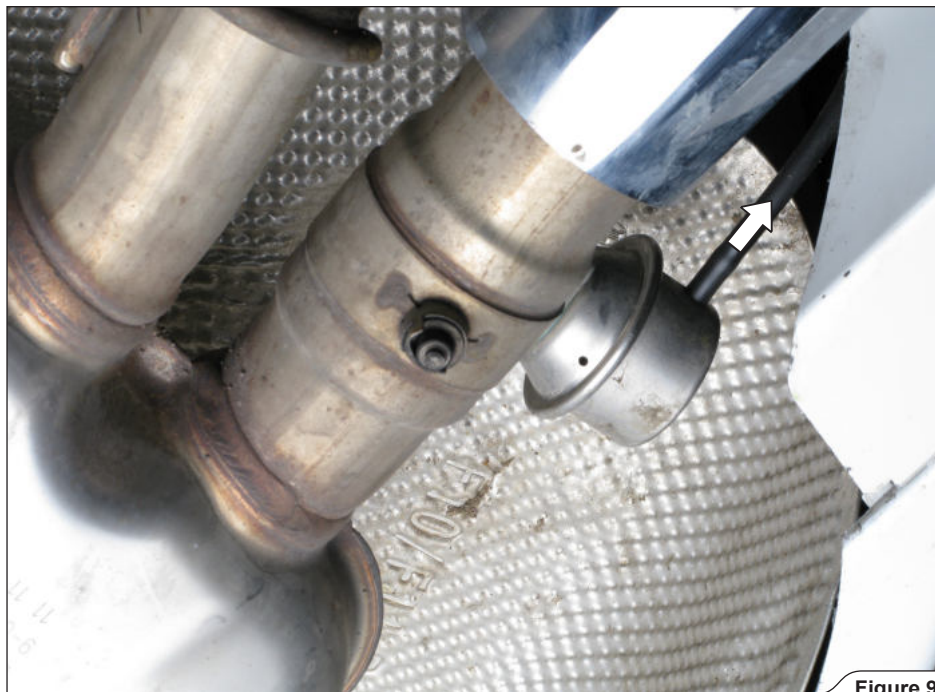

Figure 9
7. Carefully pull the vacuum tubes off both vacuum actuators (**Figure 9**).